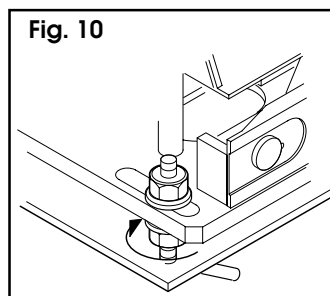

Fig. 10
11) To obtain a correct slack between the pinion and rack, lower the operator by 1.5 mm, by means of the support nuts of the base plate (fig. 10).